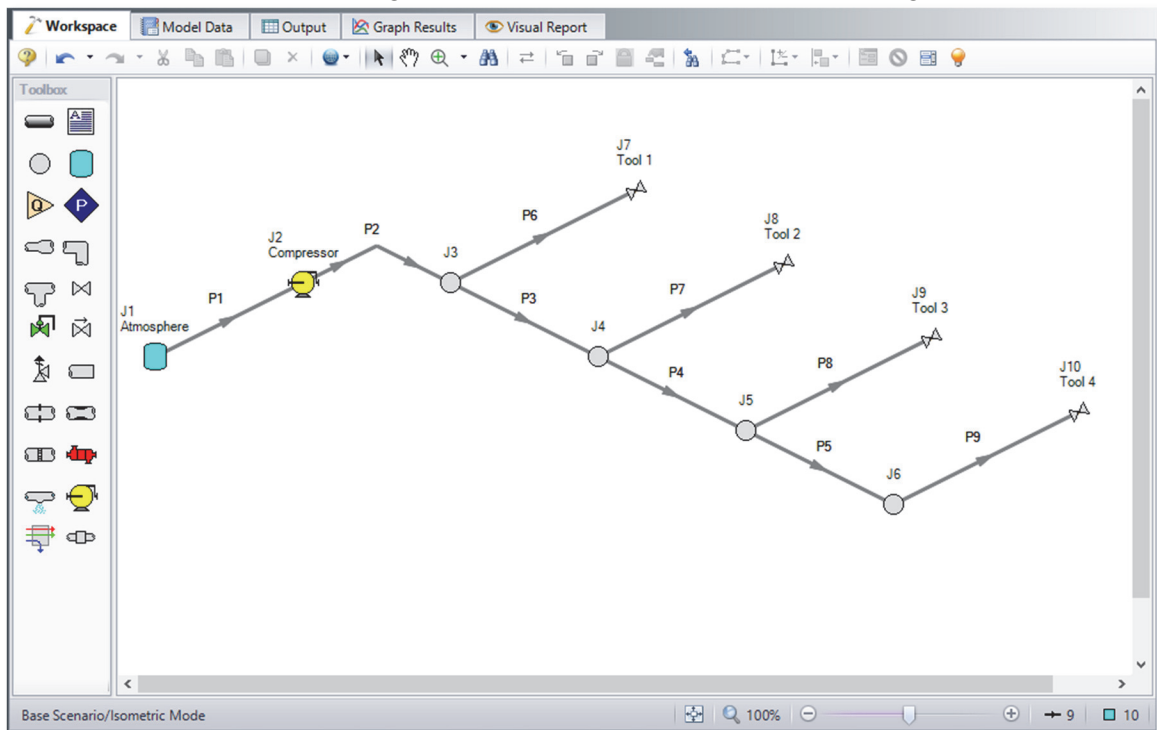

Figure 3.21 Compressed air system with isometric grid not shown
8. Draw pipes P3-9, as shown in Figure 3.21.